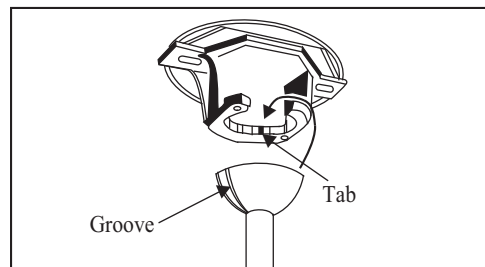

Figure 8
4. Carefully lift the fan assembly up to the ceiling mounting bracket and seat the hanger ball in the mounting bracket socket. Make sure the tab on the mounting bracket socket is properly seated in the groove in the hanger ball. (Figure 8) This will help to balance the ceiling fan.
THE TAB IN THE RING MUST REST IN THE GROOVE OF THE HANGER BALL AS FIGURE 8. FAILURE TO PROPERLY SEAT THE TAB IN THE GROOVE COULD CAUSE DAMAGE TO WIRING.